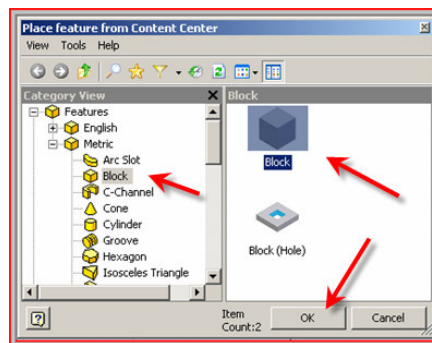

Figure 02 – Place Feature Interface
Step 03: The place feature window opens for the user to select the type of 3D primitive he wants to create as shown in figure 02
Step 04: Now select block and solid block and click on OK as shown in figure 02. However you create Boolean operations on the part file by selecting the appropriate tools.